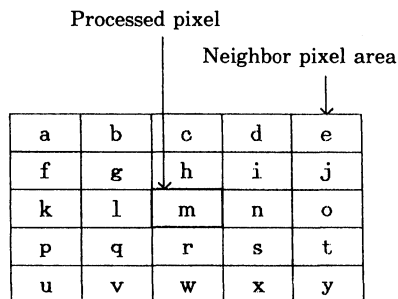

Figure 1 Input pixels
To perform image filtering on pixel m in Figure 1, output M is calculated by equation (1) from point m and from data of surrounding points (neighbor pixel areas, for example, from point a to point y).